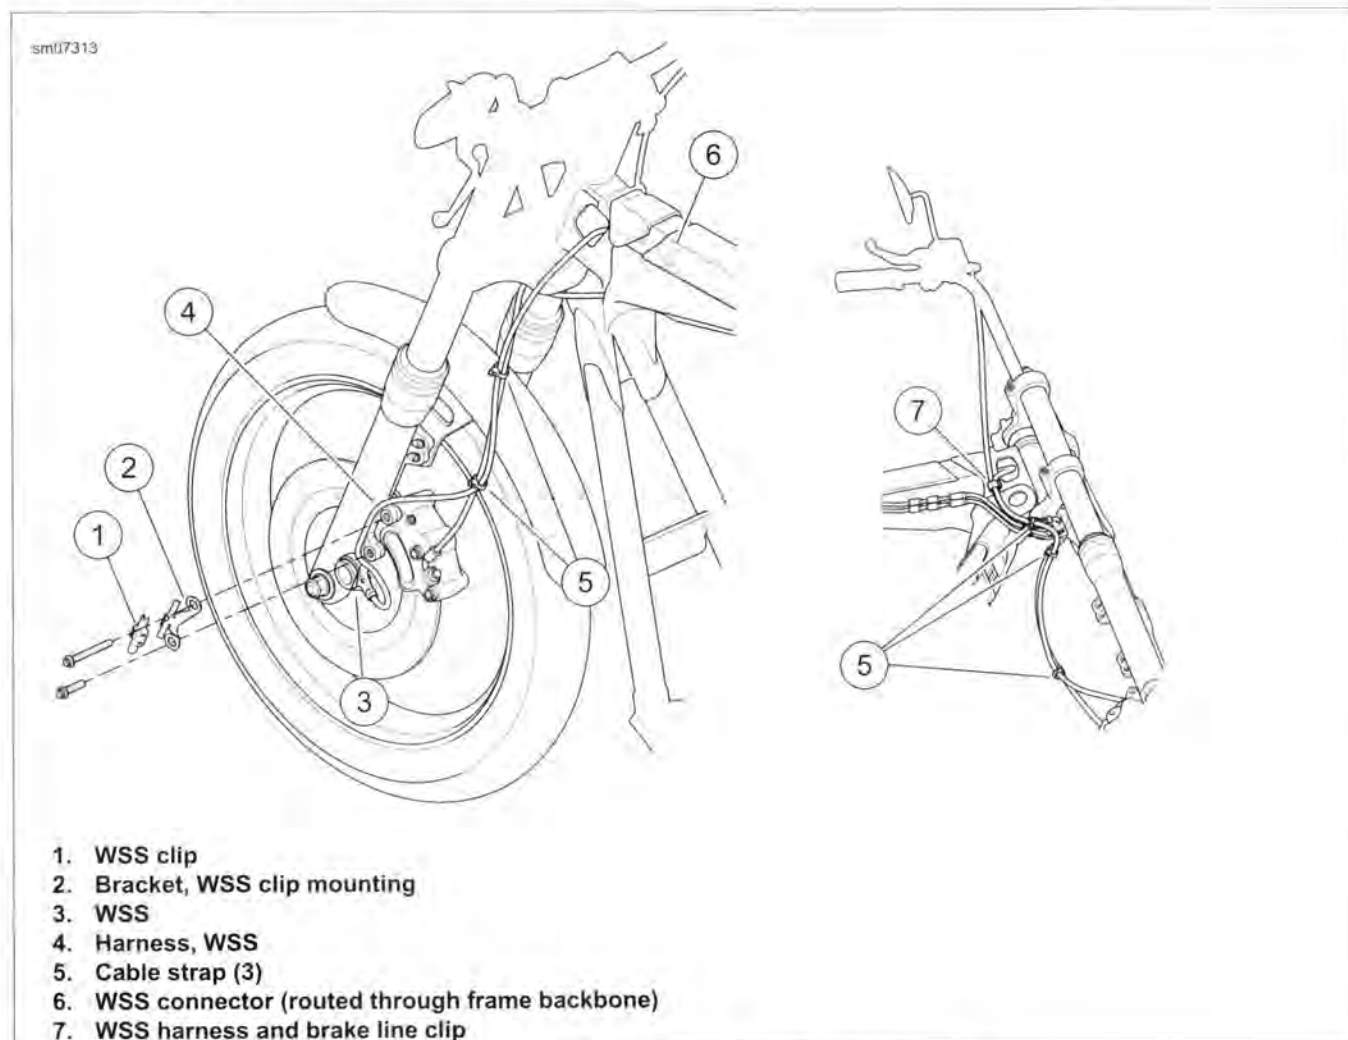

Figure 7-76. Front Wheel Speed Sensor and Connector
2. See Figure 7-76. Disconnect front WSS connector (6).
3. Cut cable straps (5) to release front WSS cable from brake hose.
4. Remove front WSS clip (1).
5. Retract axle until WSS (3) is free. See 2.4 FRONT WHEEL.
2. See Figure 7-76. Route WSS wire and brake line through WSS harness and brake line clip (7).
3. Connect front WSS connector (6).
See Figure 7-76. Cable straps (5) must be located at white stripe on brake line and approximately 1 in (25 mm) below connection at manifold.
4. Install three **new** cable straps (5) to secure front wheel speed sensor cable to brake hose.
5. Install WSS clip (1).